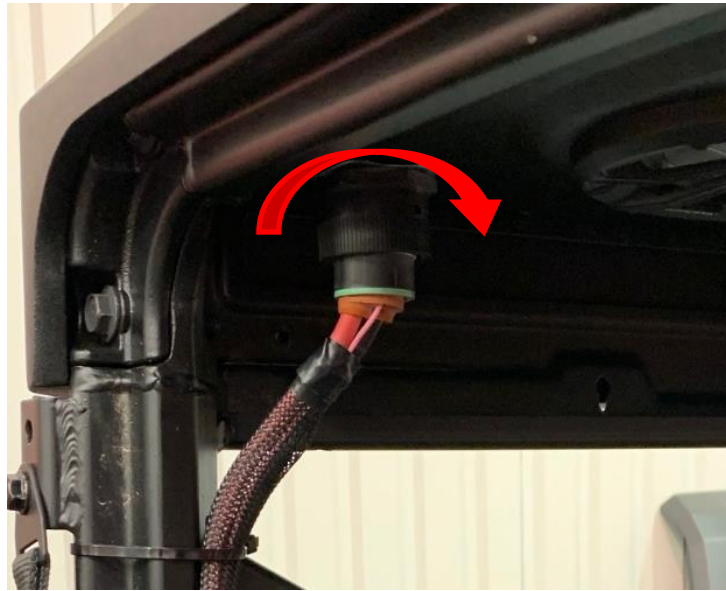

Figure 14: Align connector terminals and rotate 1/4 turn.
13. Line up the terminals on the chassis harness connector with the bulk head connector located on the back driver's side corner of the top. Plug the connector in and rotate the $\frac{1}{4}$ turn collar to lock the connector together. See Figure 14.